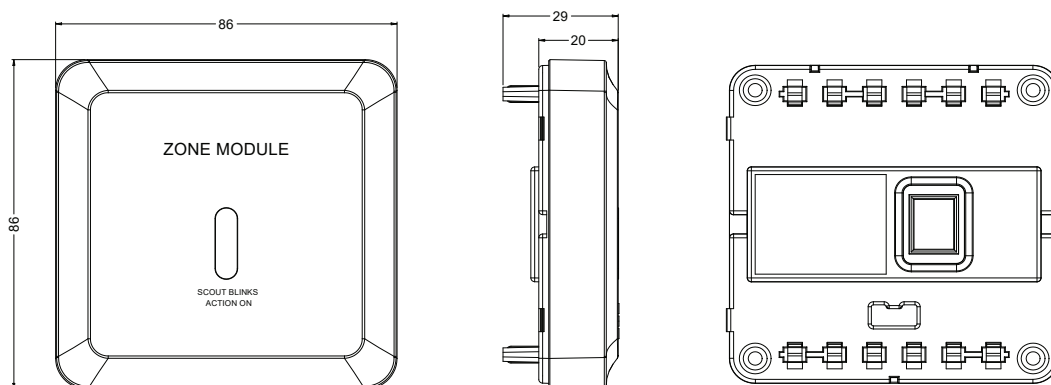

Fig.1 Main part of the BP-FD-AZM310 Module (unit: mm)
- 2) Connect the 4-pin coding plug on the coder with the 4-pin coding socket (see Fig.1) on the main body of the BP-FD-AZM310 module, and then set the coder with the coding function and compile the correct address code to finish the address coding.